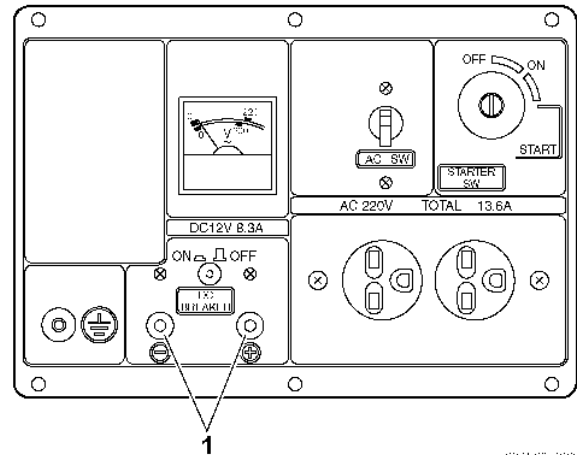

Figure 65
The DC terminal (**Figure 65, (1)**) may be used for charging 12 volt automotive-type batteries only. (Other loads may not be used.)